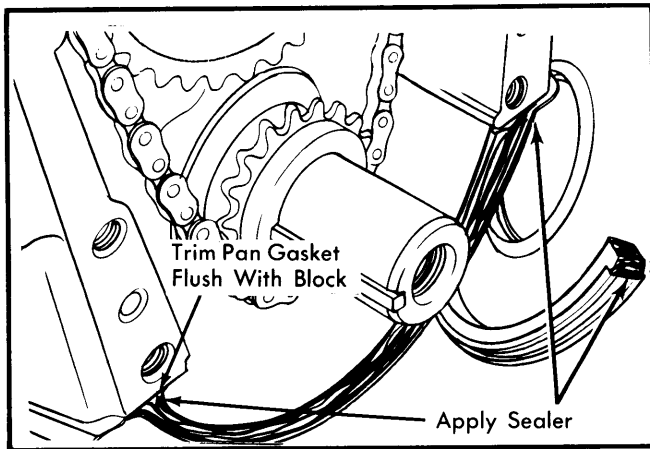
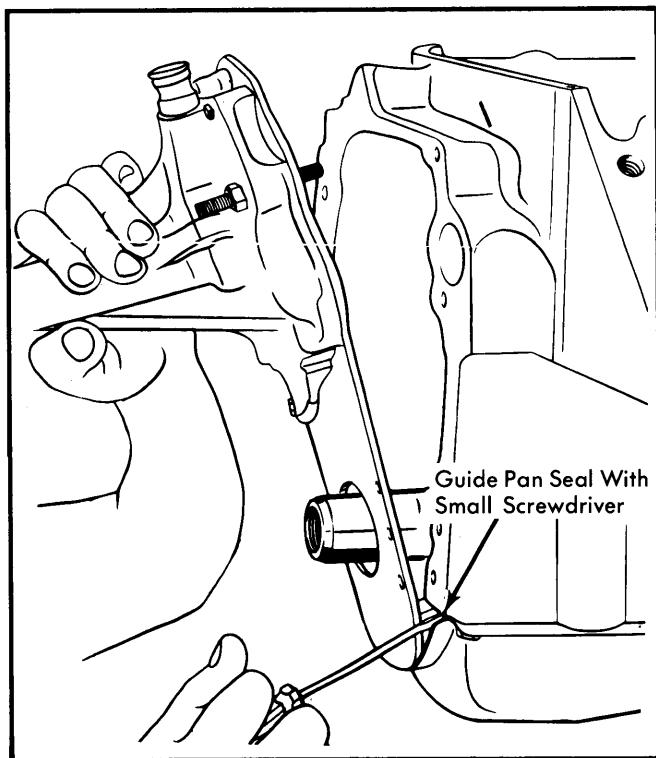

Fig. 9 Pan & Cover Seal Installation
Fig. 10 Front Cover Installation
2) Apply suitable sealer at junction of block, pan and front cover. See Fig. 9. Install front cover pressing downward to compress seal. Rotate cover left and right to guide pan seal into cavity using a small screwdriver. See Fig. 10. Install dowel pins (chamfered end first), timing indicator and water pump. Lube seal surface and install harmonic balancer. Install brackets, all pulleys, fan and belts. Install radiator and bypass hoses. Fill cooling system.